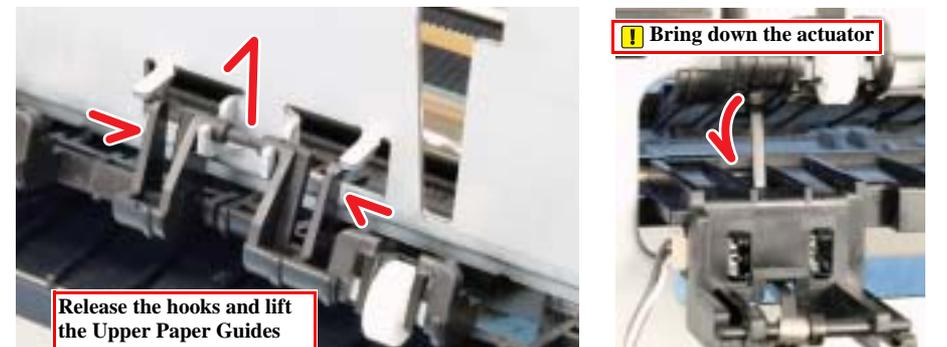

Figure 4-75. Removing the Upper Paper Guides
5. Release the hooks (x3), release the Upper Paper Guides from the shaft holders of the printer frame, lower the actuator of the PE Sensor, and remove the Upper Paper Guides. (Fig. 4-75)